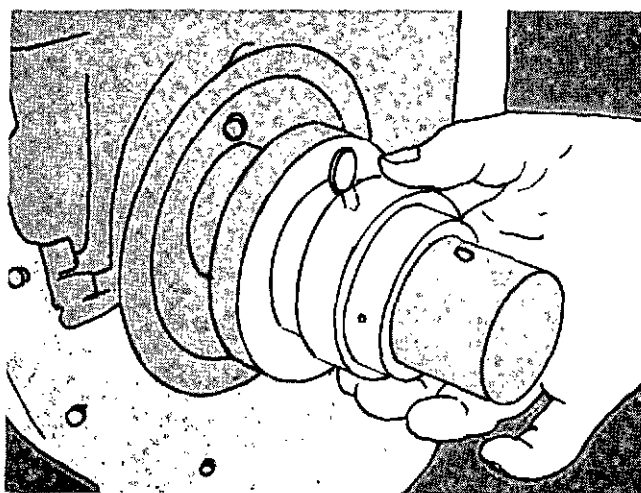

Fig. 1-46. Install The Depth Set Collar.
5. Put the Part No. 3375053 Thrust Bearing Surface Cutter on the boring bar. Install the depth set collar on the opposite side of the surface to be cut, Fig. 1-46.